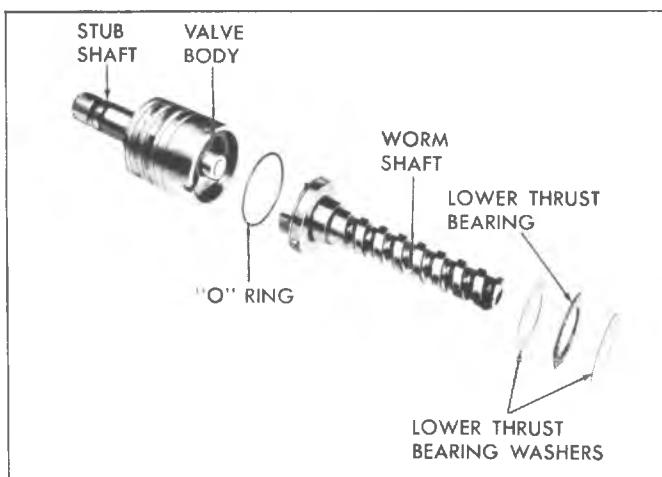

Fig. 54-Worm and Valve Body-Exploded View
1. Lubricate the worm, lower thrust bearing and the two thrust washers with Power Steering Fluid, then install one thrust washer, the bearing, and the other thrust washer over the end of the worm (fig. 54).